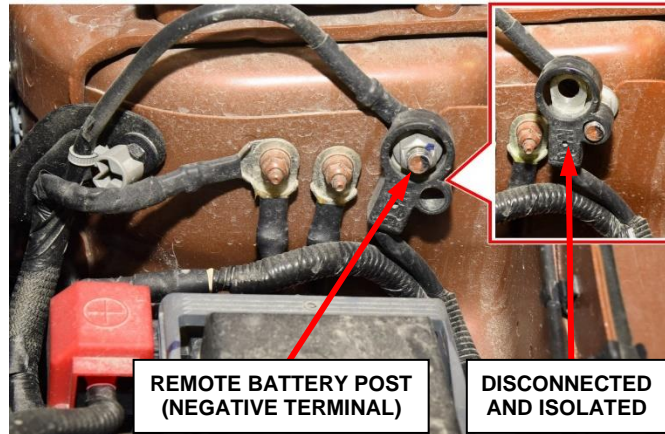

Figure 1 – Battery Negative Terminal Remote Battery Post
2. Disconnect and isolate the negative battery cable terminal from the remote battery post (Figure 1).
33. Connect the negative battery cable terminal to the remote battery post. Tighten the nut to 28 N·m (18 ft. lbs.) (Figure 1).